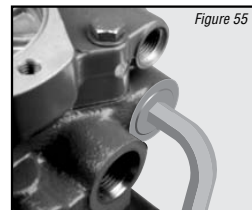

Figure 55
**27** Install the two high pressure relief valves. Torque valves 128,8 to 142,4 Nm [95 to 105 lb-ft] (see Figure 55).